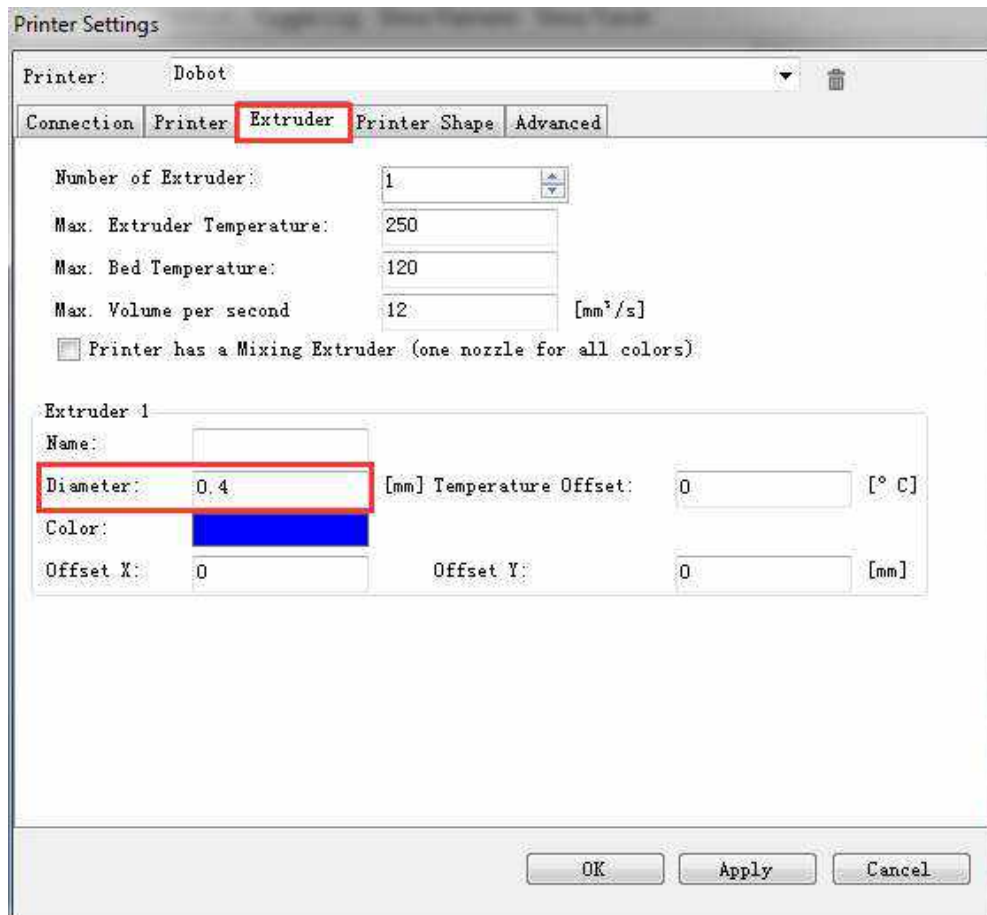

Figure 5.116 Extruder settings
- Set the corresponding parameters on the **Extruder** tab as shown in the red box of Figure 5.116, the other parameters are set by default. Then, Click **Apply**.